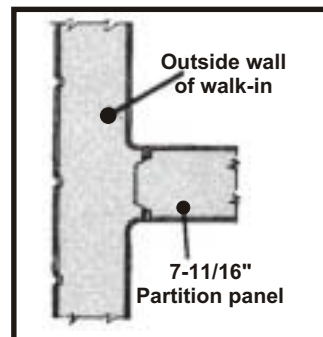
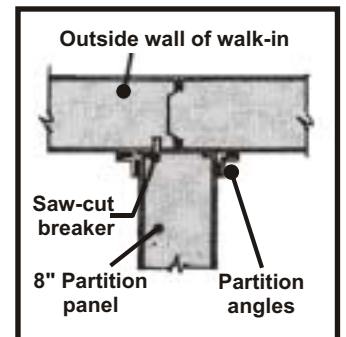

Fig. 29
Fig. 30
- A. Two types of partitions may be provided. The difference is in the vertical panel where the partitions butt against the outside walls. The type most commonly used is called "breaker" construction. See Fig. 29. This type is used when partitions are located in the center of 23" or 46" wide vertical panels. An alternative construction method (see Fig. 30) may be used in lieu of breaker panels. Installation methods for both types are as shown below.
Note: If the partition is constructed as shown in Fig. 30 no locks secure the partition to the outside wall. Consequently, the partition must be held or propped up until ceiling panels are installed. On this type of installation, a saw-cut breaker must be installed in the ceiling and in the perimeter wall panels to prevent thermal conductivity. See Fig. 30.